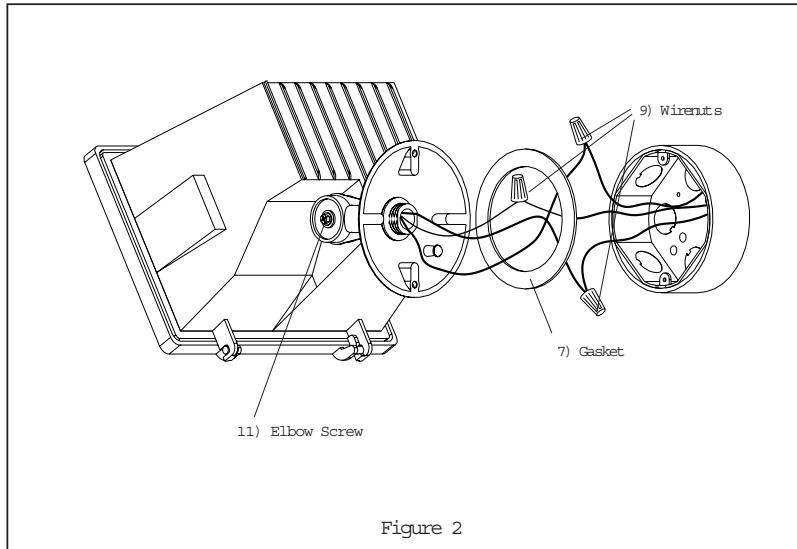

Figure 2
3. Insert fixture wires through center hole of Mounting Plate and thread 1/2" knuckle onto Mounting Plate by several turns. See Fig. 2. Note: Junction box must be rated for outdoor/wet location.
4. Position Gasket on back of Mounting Plate. See Fig. 2.
5. To ground fixture, use Wire Nut to connect the house supply ground wire & the fixture ground (copper wire). See Fig. 2. Note: If house wiring does not include a ground wire, consult your local electrical code for approved grounding methods.
9. Loosen Elbow Screw (see Fig. 2) until fixture rotates freely and adjust to desired position. Tighten Elbow Screw to secure in position.